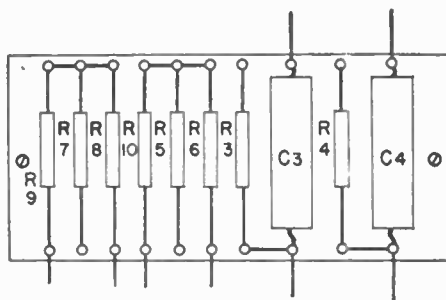

Fig. 5-21. Use of sub-panels.
make up small sub-panels of plastic or thin plywood, as shown in Figure 5-21. The sub-panels can be about two inches wide and as long as required. They may be spaced from the chassis with brackets or by means of short lengths of brass tubing slipped over the mounting screws.
c) *Output Circuit.* See Figure 5-21.